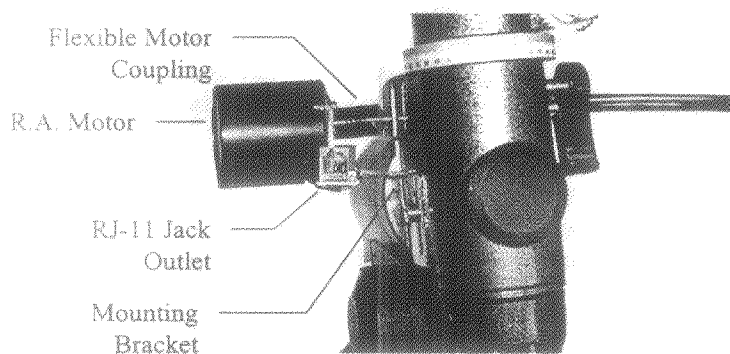

Figure 2
3. Use the R.A. slow motion knob to rotate the motor until the slotted hole on the metal bracket aligns with hole on the side of the polar housing. (See Figure 2).